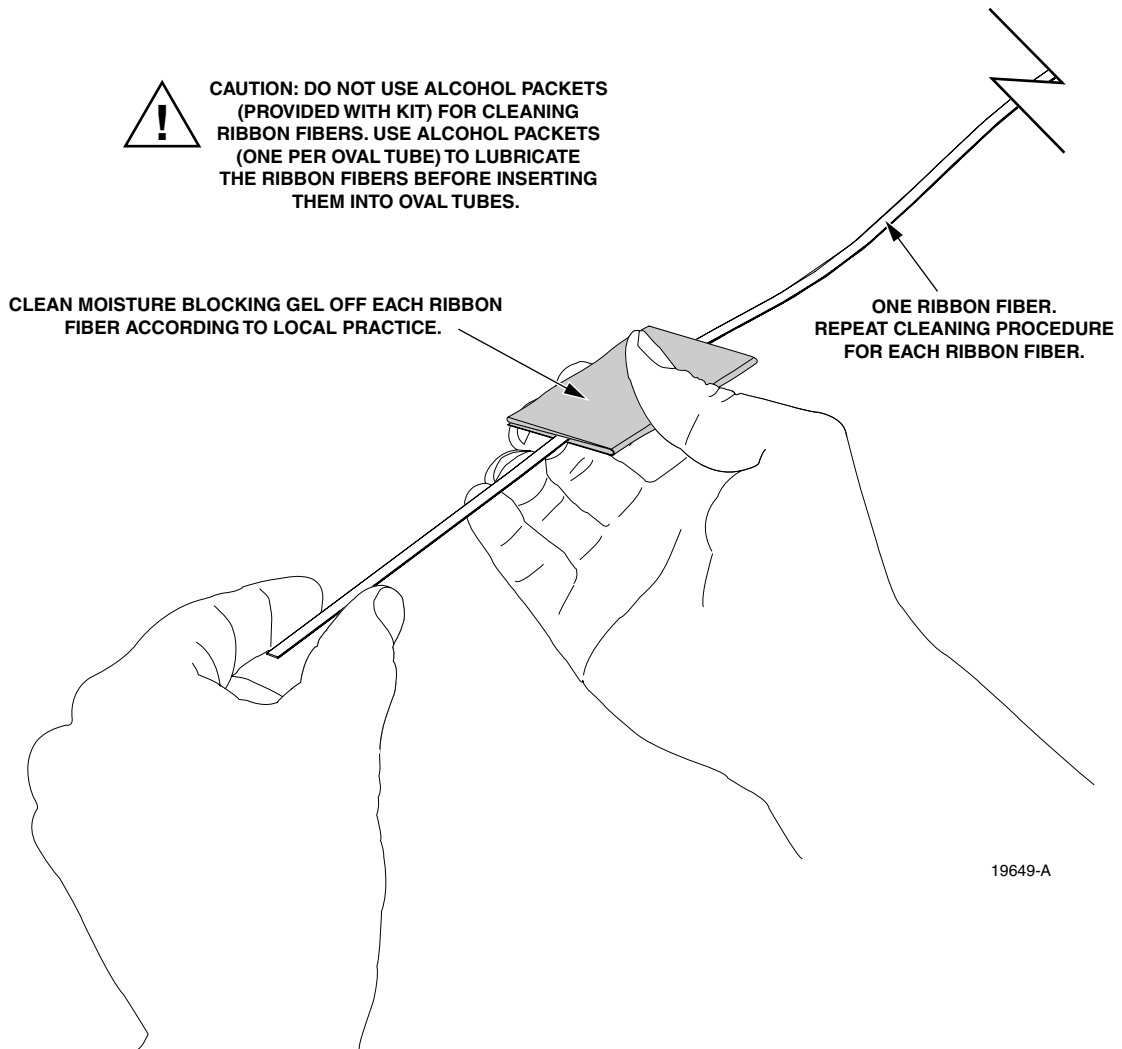

**Figure 3. Place Tape on End of Each Subunit**
3. Place adhesive strip tape (provided) around entire end of each subunit (Figure 3).